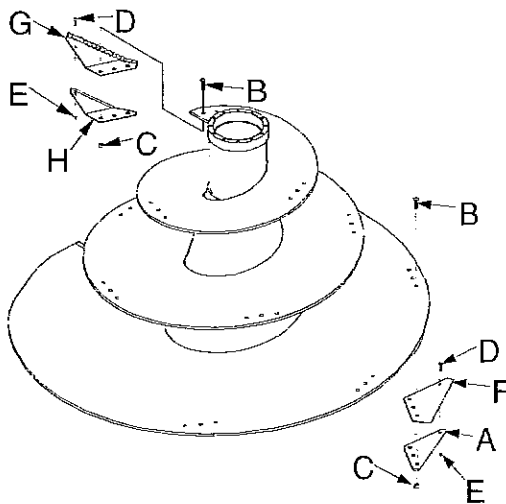

Figure 38. Knife Replacement.
**Installation** - Clean the mating surfaces of the scroll, the knife, and the backup plate and install the new knife with the cutting edge forward (the scroll turns in a clockwise direction when viewed from the top). Refer to Figure 38. Tighten the 5/8" bolts to 150 ft. lbs.